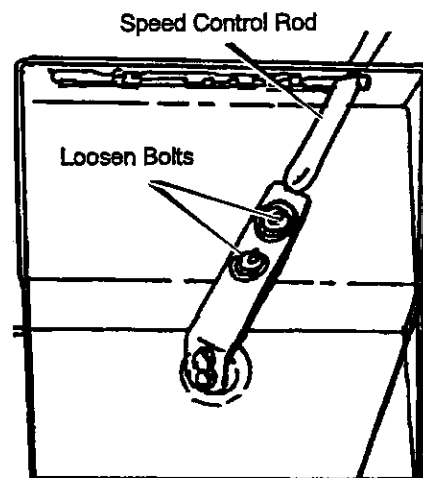

Figure 39
2. Loosen the bolts on the speed control rod (see Figure 39).
4. Tighten the bolts on the speed control rod (see Figure 39).